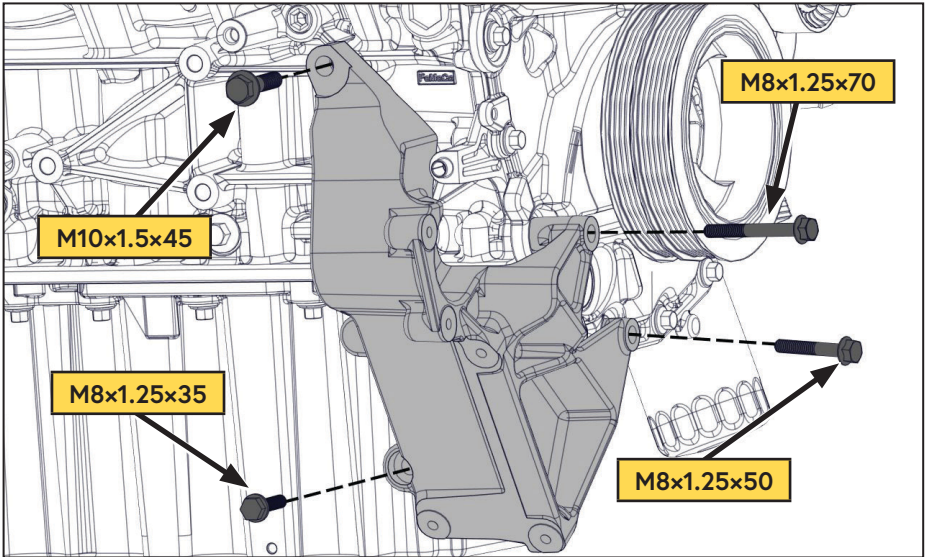

Figure 12 — Install main bracket
- Using the supplied fasteners, mount the main bracket onto the engine (Figure 12).